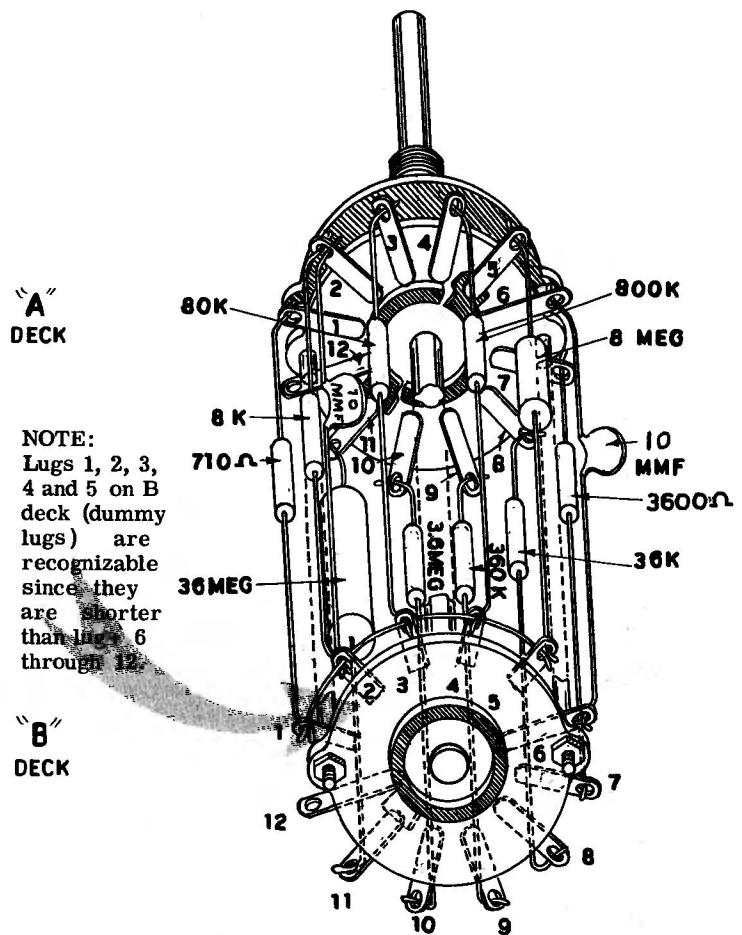

Figure 2
- ( ) Observe the two deck ceramic switch carefully. Note the position of decks "A" and "B" and the numbering system for their terminals. See Figure 2.
- ( ) Using bare wire, connect the five dummy (not connected to the rotor) lugs, B1, B2, B3, B4 and B5 together (NS).
- ( ) Connect the  $8K \pm 1\%$  resistor between A2 (NS) and B2 (NS).
- ( ) Connect the  $8 \text{ megohm} \pm 1\%$  resistor between A5 (S-1) and B5 (NS).